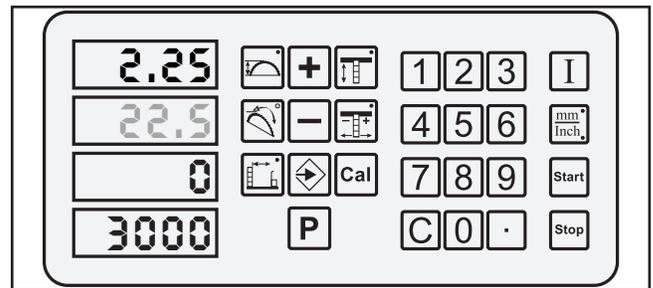

Figure 13. Second entry.
4. Use the number keys to enter in the blade angle (Figure 13).